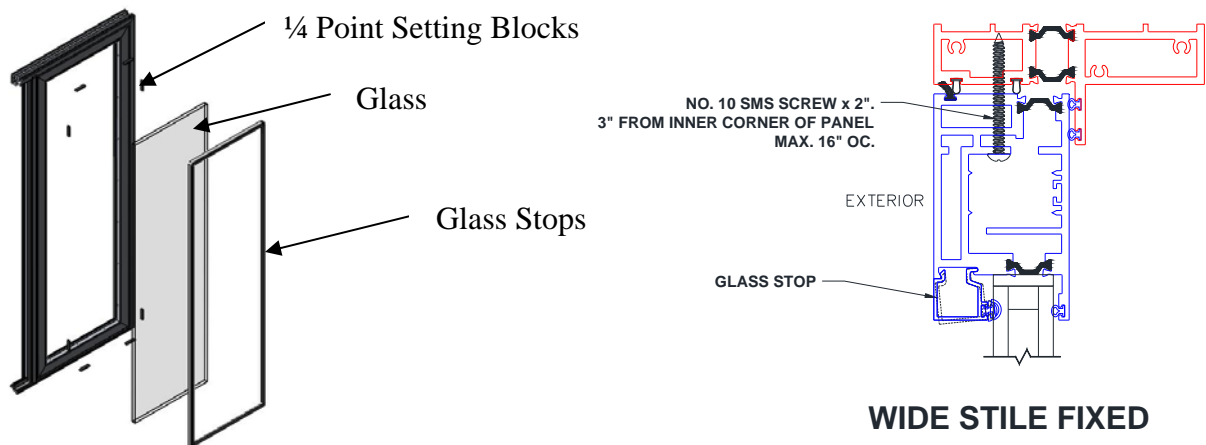

Figure 10: Panel Glazing Illustration-Wide Stile Frame Shown
- Install glass setting blocks (total 6 pcs per panel) at ¼ points into each jamb, head and sill for all four corners (see Fig. 10).
- Install glass to panel frame then install glass stops (see Fig. 10).